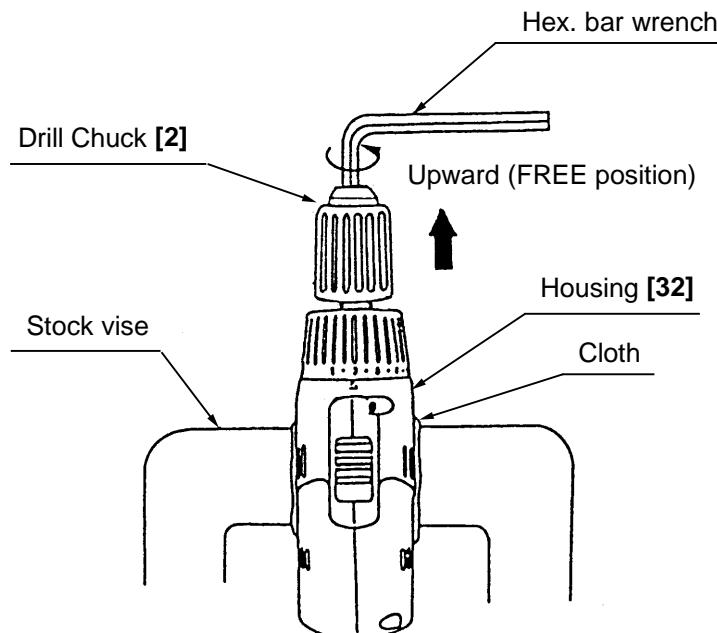

Fig. 6
(1) Remove the Drill Chuck **[2]**. (See Fig. 6)
(b) Fit the hex. bar wrench for M10 into the Drill Chuck **[2]** as indicated in Fig. 6 and remove it by turning counterclockwise. If it is difficult to loosen, use a pipe or other tool.